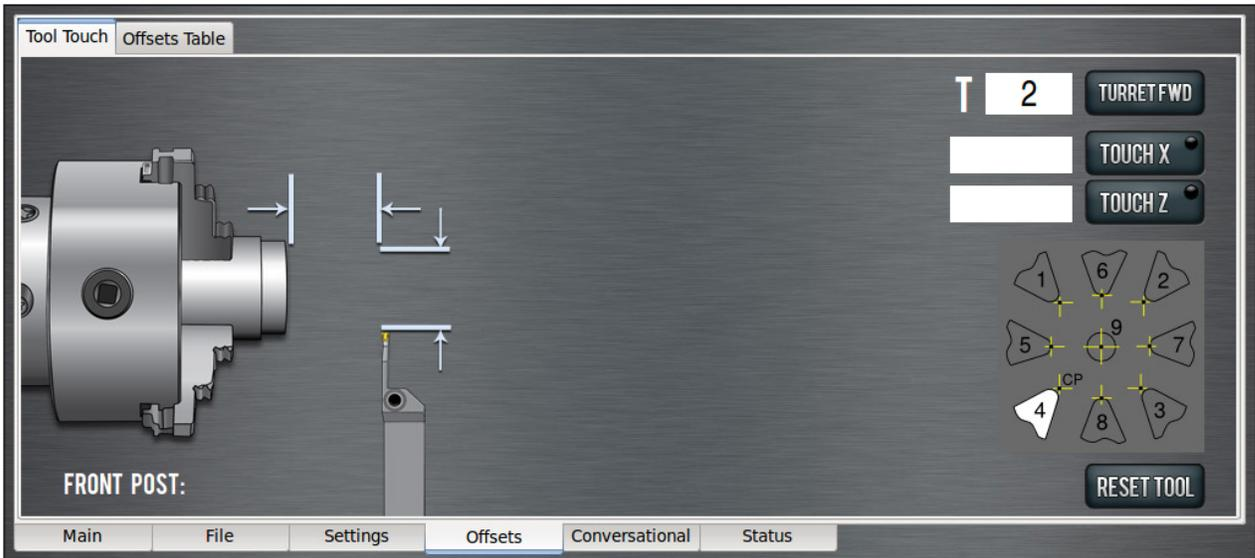

Figure 4.14
4. Change tools to tool 2 (the parting tool) by typing 2 in the *T* DRO on the *Tool Touch* tab; click *Enter* (see **Figure 4.14**).
**NOTE:** The control point for this tool is 4 (see **Figure 4.14**). This may seem unintuitive at first but when you consider that the length of the part (not the remaining stock in the spindle) is the critical dimension, it becomes clear that a parting tool's control point should be 4. The control point diagram shown in **Figure 4.14** illustrates the control point, but does not necessarily match the insert shape.